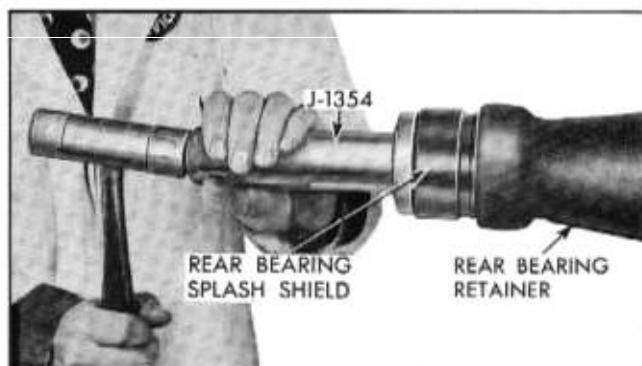

Fig. 7-4 Installing Oil Seal using Tool J-1354
7. Install new oil seal in bearing retainer using Tool J-1354 (Fig. 7-4).